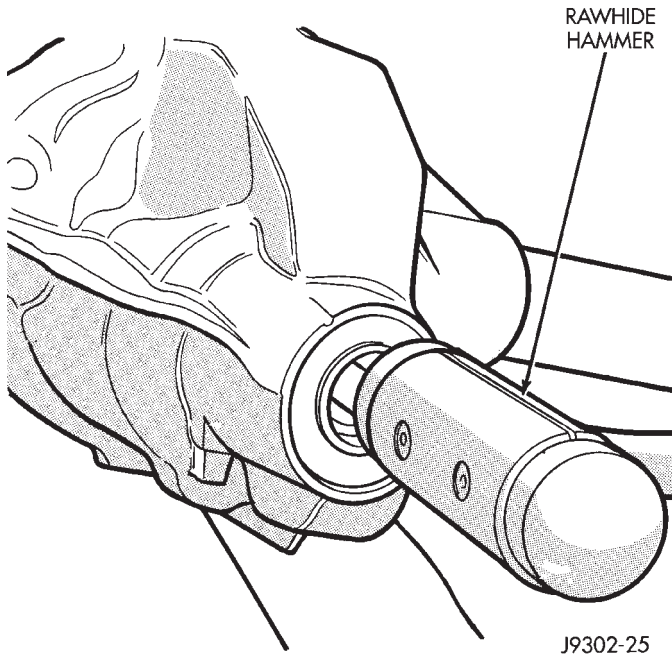

Fig. 29 Remove Pinion Gear
- (6) Remove the pinion gear and preload shims from housing (Fig. 29). Catch the pinion with your hand to prevent it from falling and being damaged.